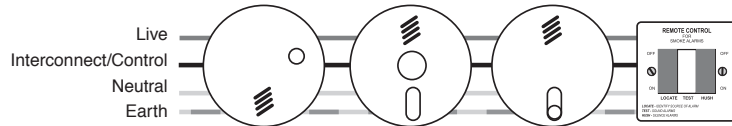

Figure 1
7. Connect the wiring as shown in Figures 1 & 2 below.